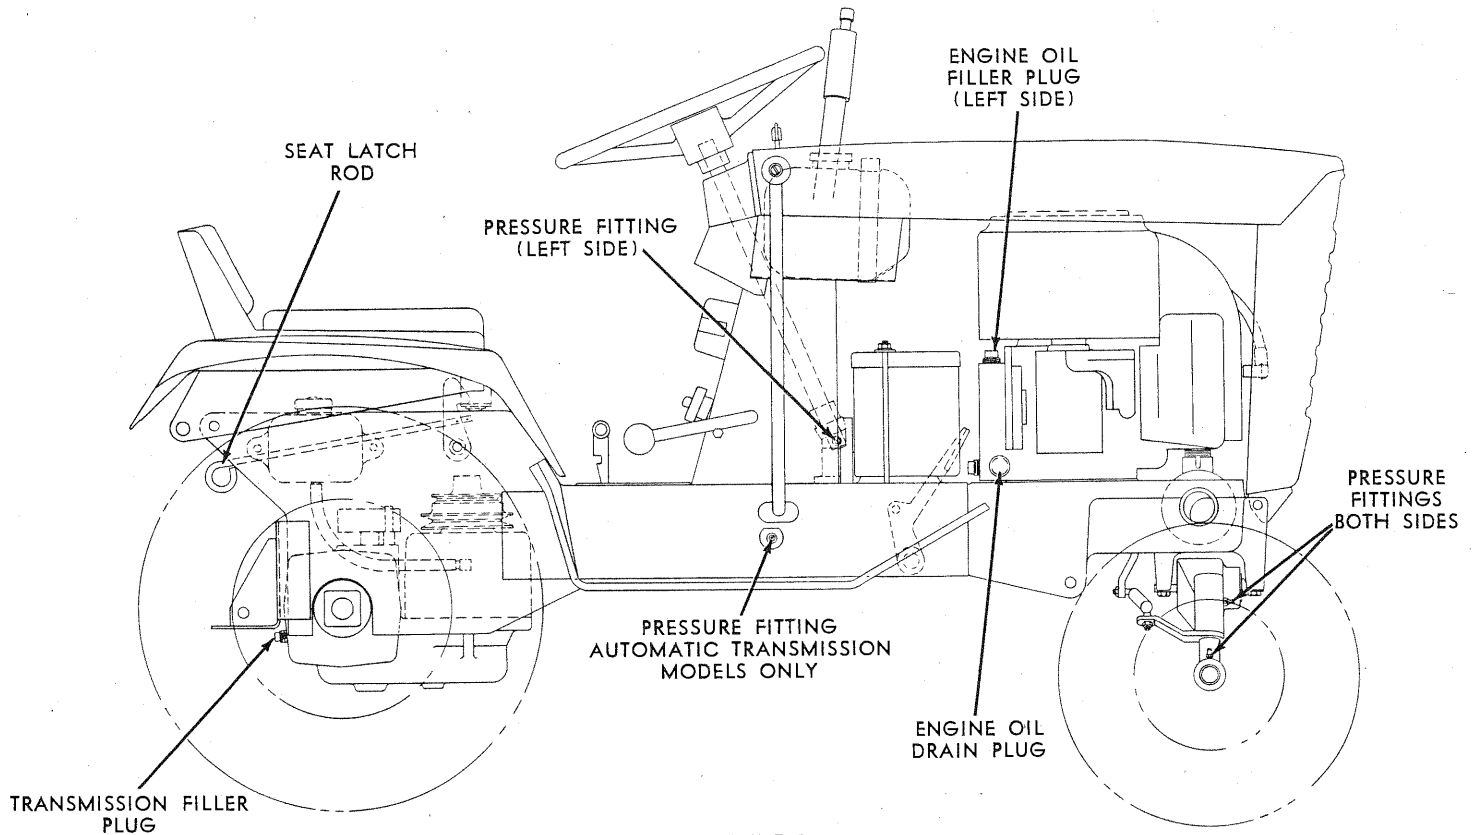

FIGURE 6
**CAUTION:** Disconnect the high tension wire at the spark plug to prevent accidental starting of the engine. Unscrew the oil drain plug located on the side of the engine (Figure 6). Be sure the oil drains completely.
Form the habit of checking the oil level regularly. Check oil level every five (5) operating hours or each time the tractor is used. To check the oil, position the tractor so that the engine is level, remove the oil filler plug (Figure 6) and add oil if necessary to bring the level up to full. The crankcase is full when the oil just reaches the bottom edge of the filler hole.
The steering mechanism, front wheel bearings, and the speed control lever shaft on automatic transmission models are equipped with fittings to facilitate lubrication with a pressure grease gun. Lubricate these points after every 8 to 10 hours of operation. Lubricate more frequently under severe dust conditions. All other pivoting arms and levers should be lubricated at the same intervals with either general purpose grease applied directly to wear surfaces or machine oil applied with an oil can. See Figure 6.
The level should be checked after every 8 to 10 hours of operation. Changing lubricant is not required except for major service. Maintain level to the bottom of the filler plug opening at the rear of the housing with MP or EP #90 Gear Lubricant. See Figure 6.
The level should be checked after every 8 to 10 hours of operation. Changing lubricant is not required except for major service. Maintain level to bottom of the filler plug opening at the rear of the housing with MP or EP #90 Gear Lubricant. See Figure 6.